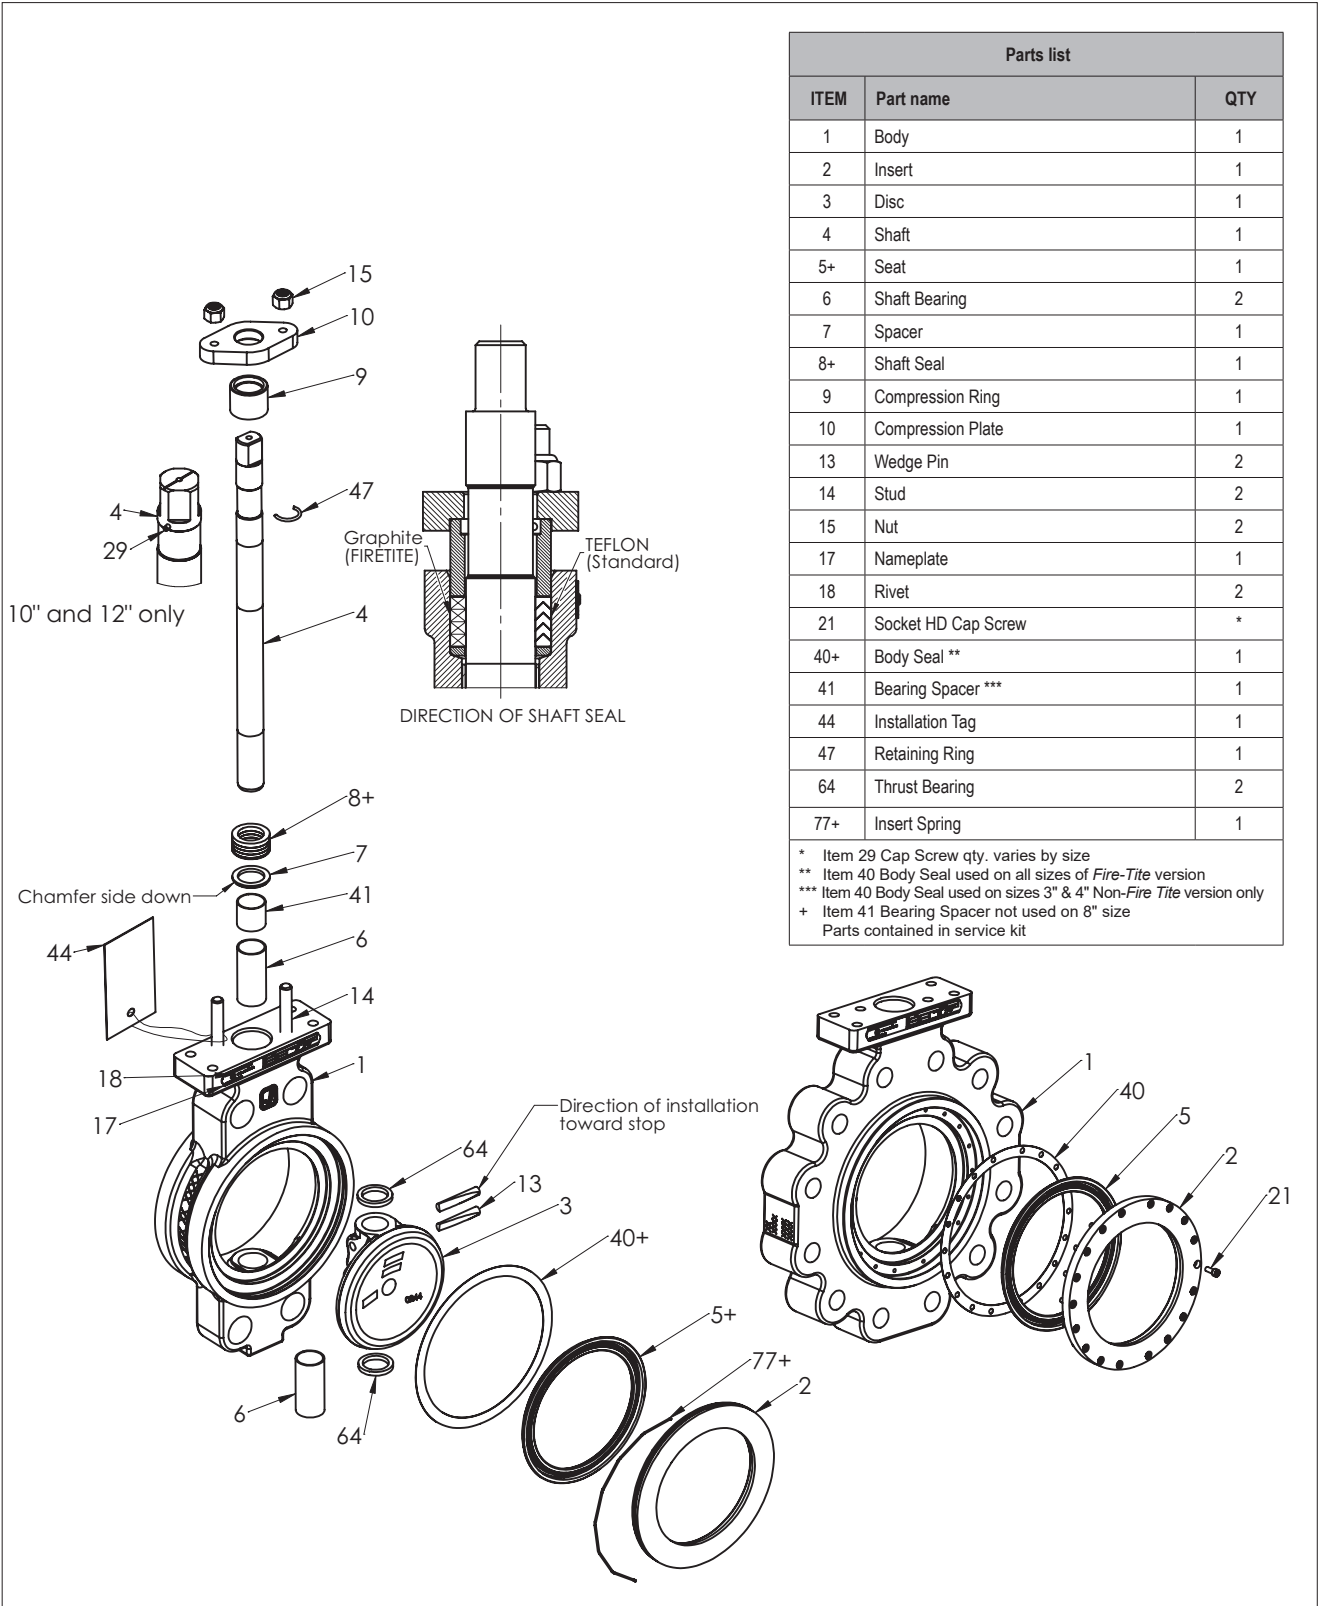

Figure 13.
4. Remove the disc pin welds by grinding or machining off the welds. Drive out the pins opposite the installation direction shown in **(Figure 13)**.
5. Remove the shaft (4). **NOTE:** When removing the shaft and freeing the disc, be careful not to scratch the sealing surface of the disc.
6. Remove the disc (3) and upper and lower thrust bearings (64).
7. Remove the top bearing (6) either through the top of the valve or the waterway.
8. Remove the bottom bearing (6).
- c. From **Figure 13**, the ballooned part number, part name and quantity required.
Numbers in () refer to items shown in **(Figure 13)**.
8. Insert the disc pins (13), as shown in **(Figure 13)**, and drive them into place. The pins must be driven so that both pins are the same depth within 1/16" (1.56 mm). When they are correctly installed the drive shaft will be as shown in **(Figures 2 and 3)**. Weld both ends of the pins, small end first, grounding the shaft only (body on blocks of wood). After the disc cools, clean the welds with a wire brush. **CAUTION:** Use care to keep contamination out of the valve.
9. Install the upper bearing spacer (41) when applicable, the spacer (7) with chamfered side toward disc, the shaft seal (8), the compression ring (9) and the retainer ring (47). If the shaft seal is of the PTFE V-ring type, be certain that it is installed in the orientation shown in **(Figure 13)**.
- From **Figure 13**, the ballooned part number, part name and quantity required.